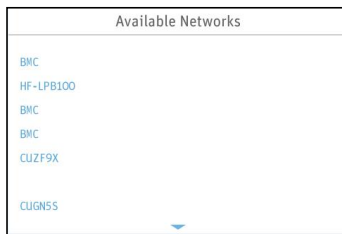
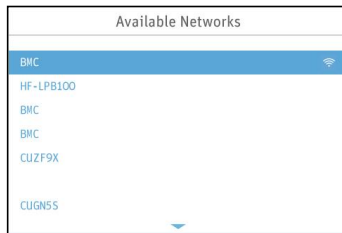

Fig. 16-7
Fig. 16-8
(3) The WiFi setup interface displays a certain number of available WiFi networks in a random order, as shown in Fig. 16-7. If a page turning symbol  appears below the WiFi network list, it indicates that when the cursor is on the last WiFi network on that page, the user can turn **the Knob**  to the right to see the remaining WiFi networks, as shown in Fig. 16-8. If the desired WiFi network is not listed, disconnect the device from the power supply, connect it to the power supply again, and then repeat steps (1) (2) to search for WiFi networks. Keep searching until the desired WiFi network is found.